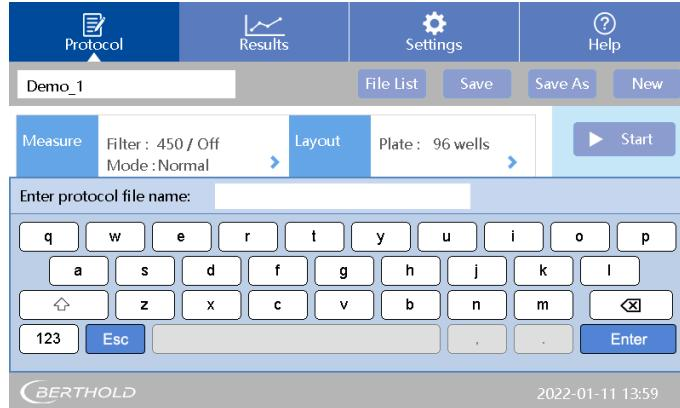

Fig 3: Set up a new protocol
- Click <New> to create a new protocol. Input the new protocol name, click <Enter> (Fig 3).